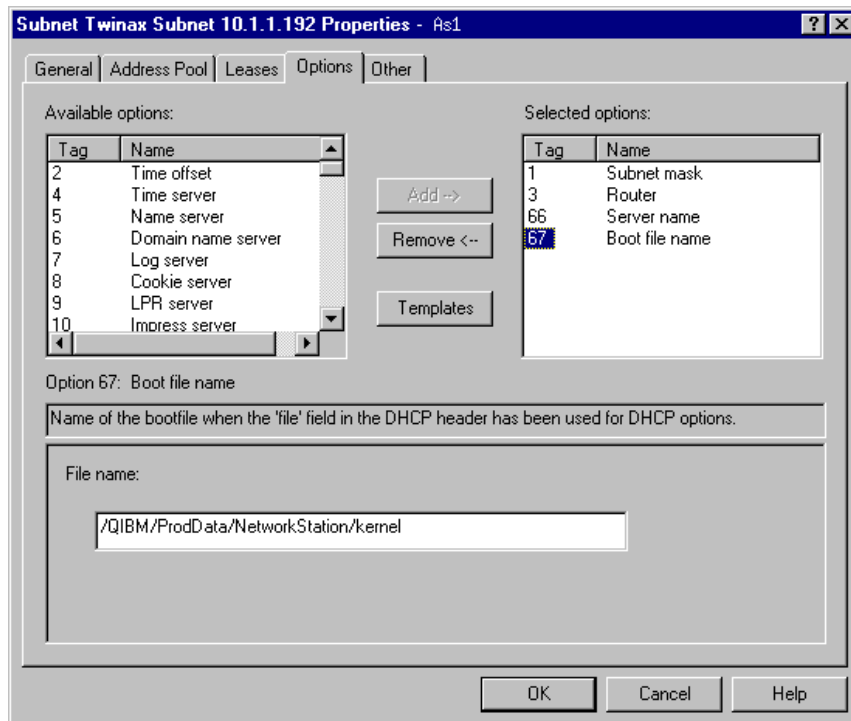

Figure 73. Twinax Attached DHCP Options Configuration
15. Click the **Options** tab, as shown Figure 73 on page 163.
The options, when added, appear as shown in Figure 73.